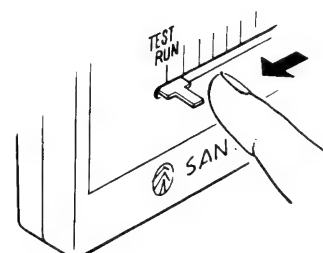

Fig. E-9
- Set the thermostat lever to the lowest position. (The central position of the lever becomes the TEST RUN position.) Fig. E-9.